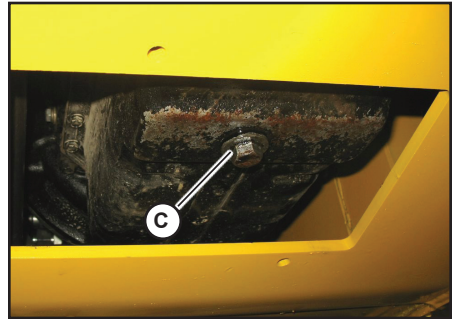

Fig. 82 - Rear Belly Pan Opening.
2. Run the engine until it is at operating temperature. Stop the engine. Remove the rear belly pan (C, Fig. 82).